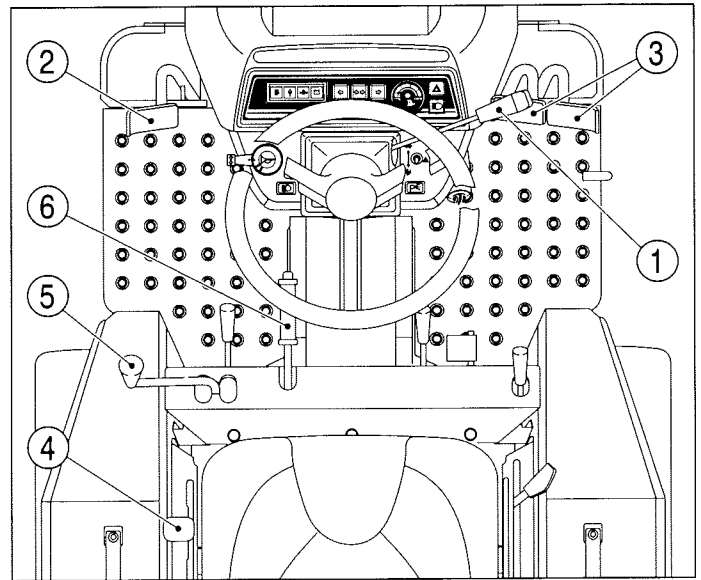

FIG. 36
FIG. 36: To stop the tractor with a regular gear transmission, move the throttle lever (1) forward, to reduce engine speed and slow travel. Depress the clutch pedal (2) and brake pedal (3) to stop. Position the range shift lever (4) and gearshift lever (5) in the neutral position. Latch the brake pedals together, depress the pedals firmly and set the parking brake (6). Allow the engine to idle several minutes to allow even cooling, then turn the main switch to the “off” position shutting off the engine. Lower the three-point hitch and remove the main switch key.